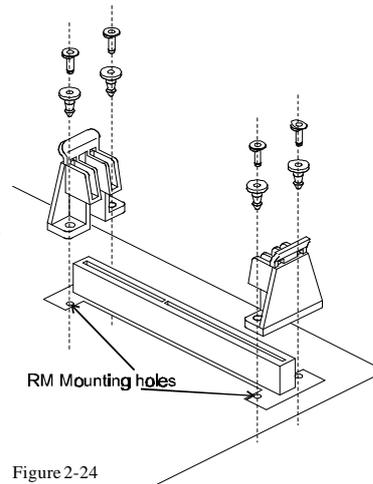

Figure 2-24
2. Insert two Retention Mechanism (RM) face to face on opposite side of the Slot 1.(Refer to Figure 2-24)
3. Insert four Post Pin through the RM to fix it to the mainboard. (Refer to Figure 2-24)
4. Insert four Lock Pin through the Post Pin to lock RM to the mainboard.(Refer to Figure 2-24)